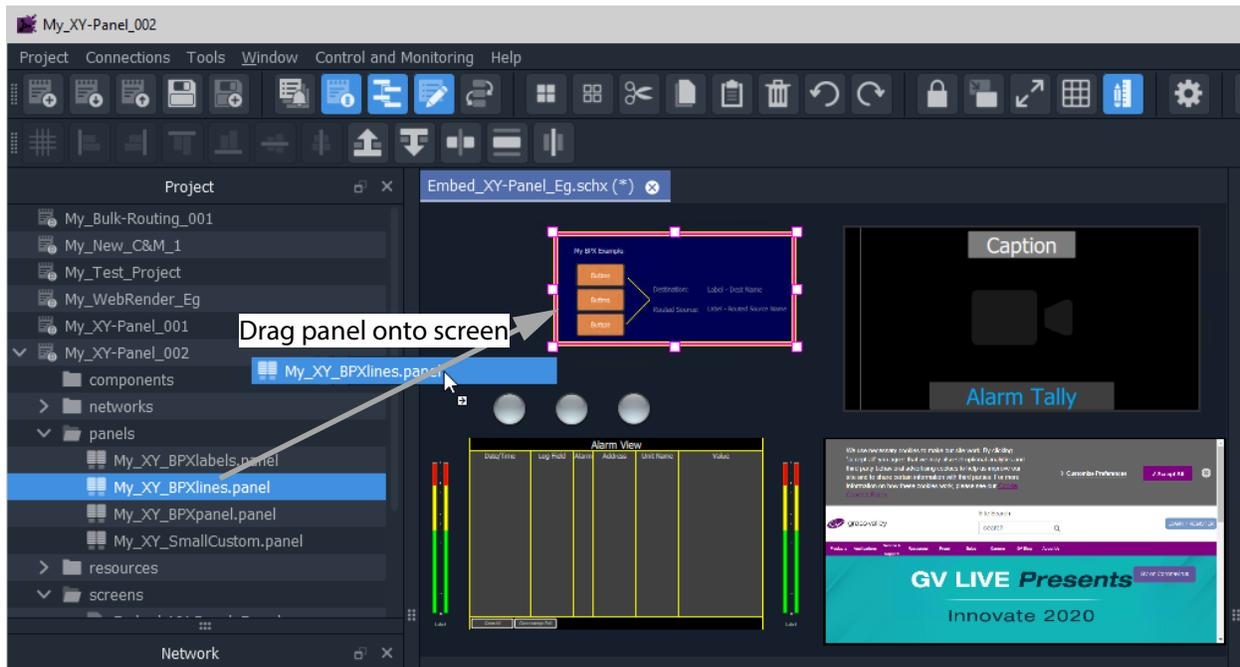

Fig. 6-65: Drag on an XY Panel
- 6 Drag an XY panel from the **Project** window onto the C&M project screen, and release. See Figure 6-65.